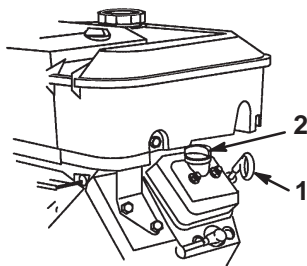

Figure 10
2. Remove the dipstick and wipe it with a clean rag (Fig. 10). Insert the dipstick into the tube and make sure it is seated fully. Remove the dipstick and check the oil level.
3. If the oil level is low, remove the filler cap from the valve cover (Fig. 10) and pour oil into the opening until the oil level is up to the Full mark on the dipstick; refer to Engine Oil, page 24, for the proper oil type and viscosity. Add the oil slowly and check the level often during this process. **Do not overfill.**